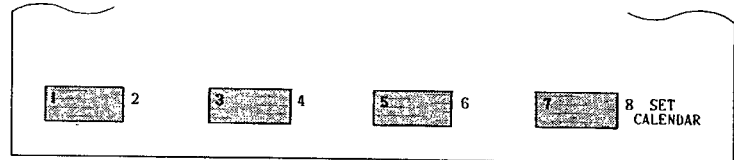

Fig. 7.23
- Cursor in "Y", "Mon", "D", "T", "M", or "S" — Label display in Fig. 7.23